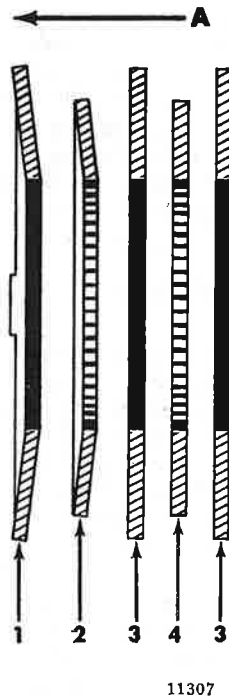

FIG. 265—PLATE ASSEMBLY ORDER
The disc type also has been produced with two different types of friction plate and disc sets or clutches. In the early disc type, all plates and discs were the flat type. The late disc type assembly order is shown in Fig. 265 and should always be used as the guide to properly assembling the plates.
Note that Fig. 265 shows one side only and the opposite side would be the reverse order when the reference arrow A is pointing toward the case in the opposite direction.
c. Remove clutch friction discs and plates. Care should be taken to see how the friction plates and friction discs and dished plates are assembled. The illustration (Fig. 265) shows the arrangement of plates and discs used for current production model Powr-Lok differentials. Earlier production differentials will have a different arrangement, and a different number, of plates and discs. If the plates and discs are not to be replaced, they are to be reinstalled in their original arrangement. If the plates and discs are to be replaced, the new plates and discs are to be installed with the arrangement shown in Fig. 265.
f. Assemble the clutch friction plates, clutch friction discs, and dished plates on the splined hub of each bevel side gear. Make sure the plates and discs are installed according to their original arrangement, or Fig. 265 if the new plate and disc set is used. The dished plates in the plate and disc set, are always assembled with the convex side toward the case. As each part is reassembled in its proper position, it is necessary that it be lightly coated with Jeep "Powr-Lok" Differential Oil, Part No. 94557.